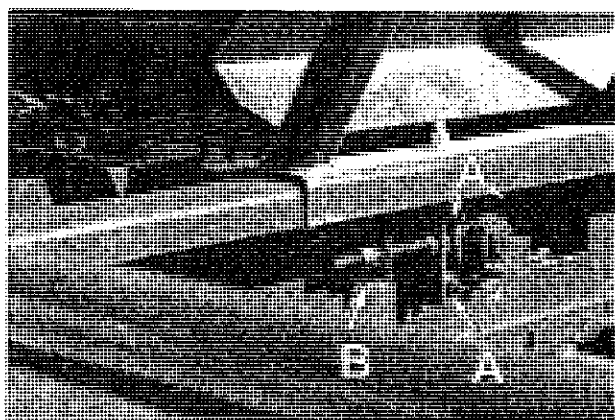

Figure 35. Tank Chain Tensioning
To adjust the tension of the draper chain in the tank conveyor, loosen the bracket bolts (Figure 35-A). Using take-up bolts (B), tension both sides equally so the draper chain just clears the guide under the tank. Tighten the bolts. Check tension frequently.